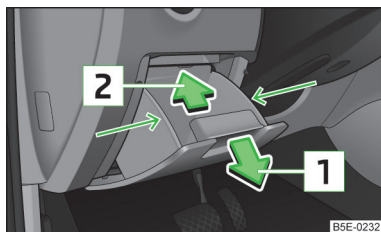

Fig. 215
- Grab hold of the storage compartment in the area of the arrows » Fig. 215.